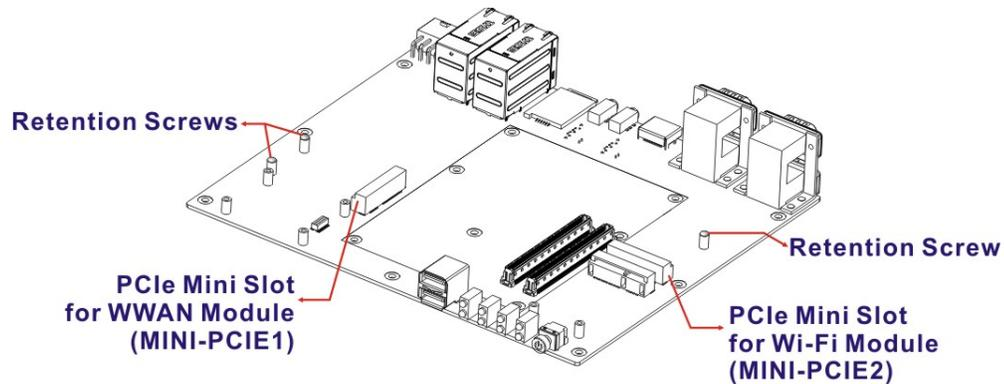

Figure 3-11: WLAN and WWAN Card Slot Locations
- Step 3:** Locate the half-size PCIe Mini slot for WLAN modules and the full-size PCIe Mini slot for WWAN modules (**Figure 3-11**).
- Step 4:** Remove the retention screw(s) for PCIe Mini card installation (**Figure 3-11**).